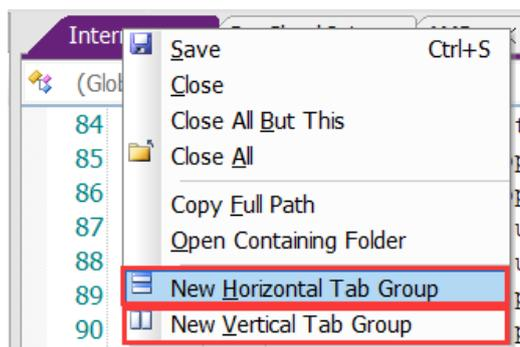

Figure 3-5
17. Support double-screen file display function . If you use this feature to view two files at the same time, such as C file and H file. Right click to select the horizontal screen or click ; right click to select the vertical screen or click , as shown in Figure 3-5; If you want to return the single-screen mode, click the option shown in Figure 3-6 or click  again.